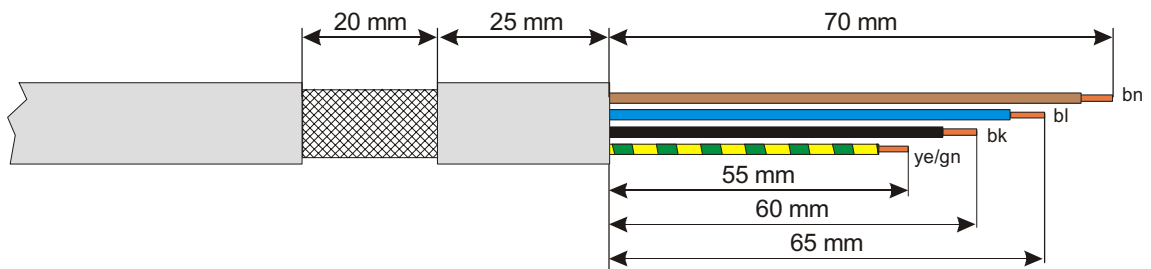

Fig. 2-6 Preparing the motor cable
2. Preparation the motor cable (fig. 2-6), an mount wire end ferrules on the device end of the motor cable..
4. Fasten the connector to the front panel (item 24).